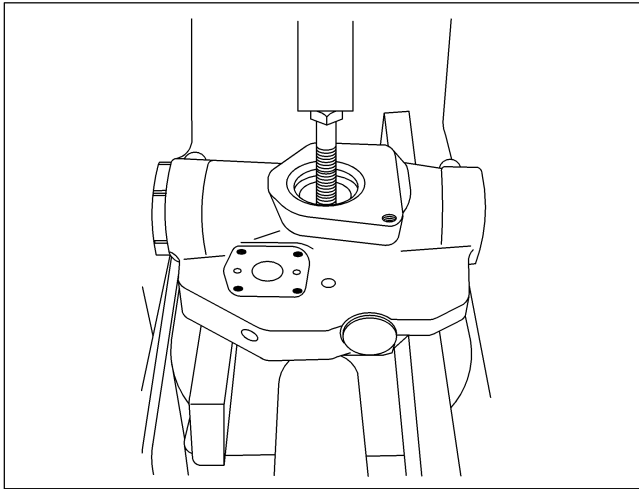
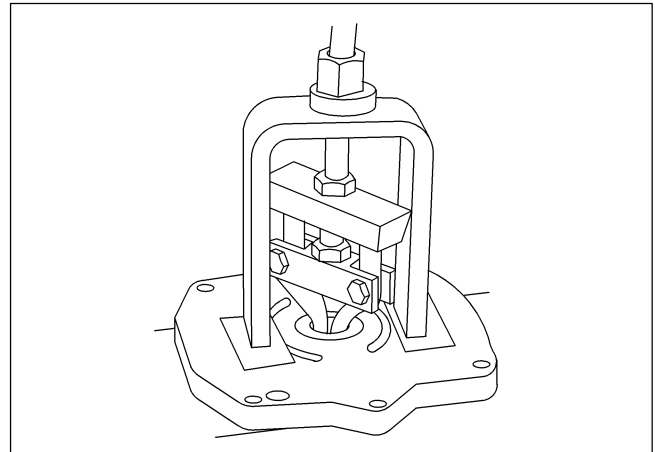

Figure 20. Removal of Bearing Race from Valve Block.
Figure 20a. Removal of Bearing Race from valve Block with Blind Hole.
3. Remove bearing race (71) from valve block (32). Refer to Figure 20 for removal information and use tool shown in Figure 10 for PVE**G units. Use tool shown in Figure 10a and procedure shown in Figure 20a for PVE** units with a blind hole in valve block (32). BE CAREFUL not to scratch face of the valve block during removal of the race.